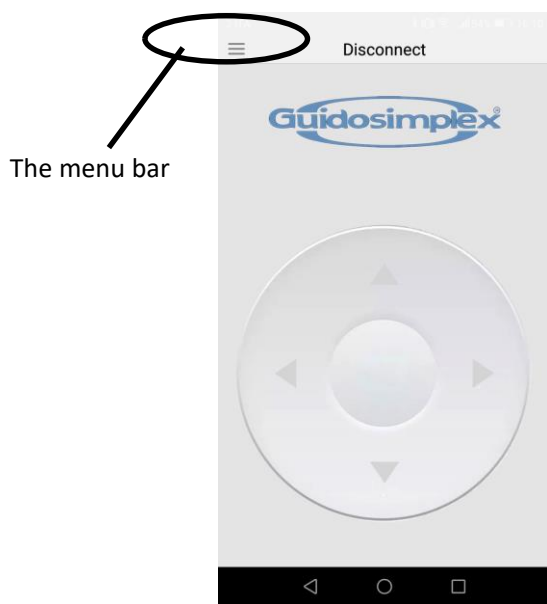

figure 5-1-1
- ① Download the mobile APP from our website or scan the QR code to download;
- ② Reset the platform, when the platform is retracted, Hold the switch "UP" and "DOWN" keys DOWN for 10s simultaneously, The buzzer gave a long beep;
- ③ Open the APP and click the menu bar in the upper left corner (See figure 5-1-1) ;